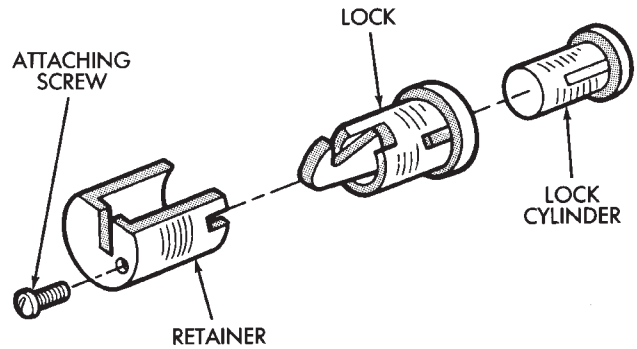

Fig. 62 Console Lock Cylinder
- (1) Open the console cover.
- (2) Remove the screw that attaches the retainer to the lock and then remove the retainer from the lock (Fig. 62).
- (3) Remove the lock cylinder from the console cover.